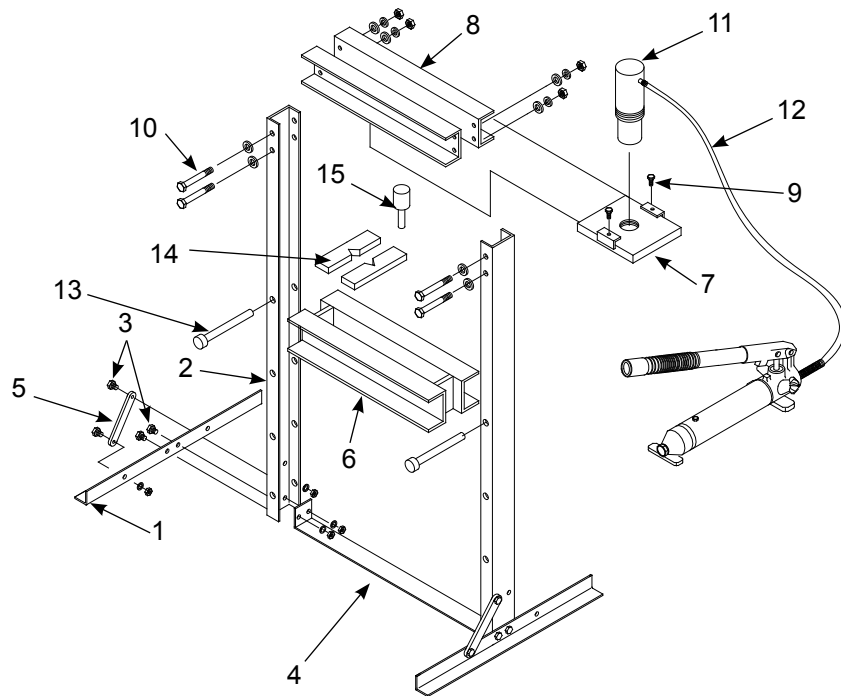

Figure 6 - Assembly Illustration for model 65123
**Model 65123:** (Refer to Figure 6)
1. Attach base legs (1) and lower cross member (4) to upright channels (2) with bolts, lock washers and nuts (3). Hand tighten only.
2. Attach support links (5) to the base (No.1) and upright channels (2) with bolts, lock washers and nuts (3).
3. Carefully slide bed frame (6) down to lowest possible position between the upright channels (2).
4. Slide head plate (7) to into upper cross members (8). Then, secure with bolts (9).
5. Attach the upper cross members assembly (8) to the upright channels (2) with bolts, flat washers, lock washers and nuts (10).
6. Thread the ram (11) to head plate (7) on upper cross members (8).
8. Connect the male coupler end of hydraulic hose (12) to the female coupler of the ram (11) to complete the connections.
9. Bring the bed frame (6) up and secure it with pins (13).